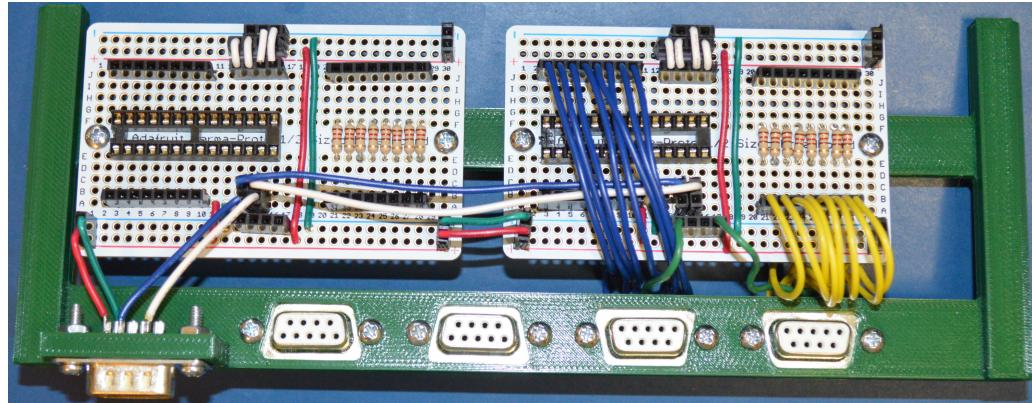

Figure 2.8: Panel I/O Tray with LSB LED and Switch Connectors Wired
- Add wiring to the connectors. See Figures 2.8, 2.9, and 2.10. Also refer to subsection 2.3.5 to make sure that the connector pinouts match those of the panel being connected.